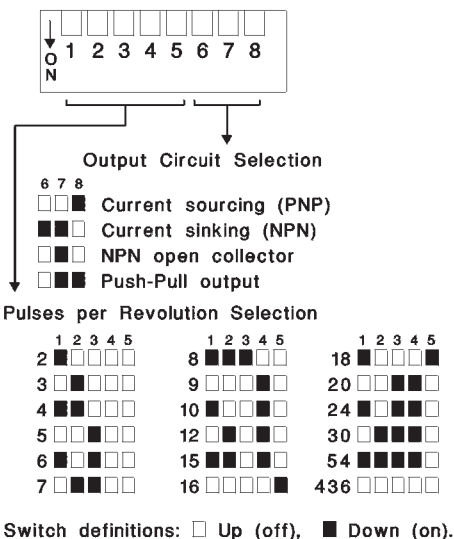

Figure 1 - Configuration Switches
- switches 6 to 8 (see figures 1 and 2)
Pulses per Revolution: Selectable by setting switches 1 to 5 (see figure 1)